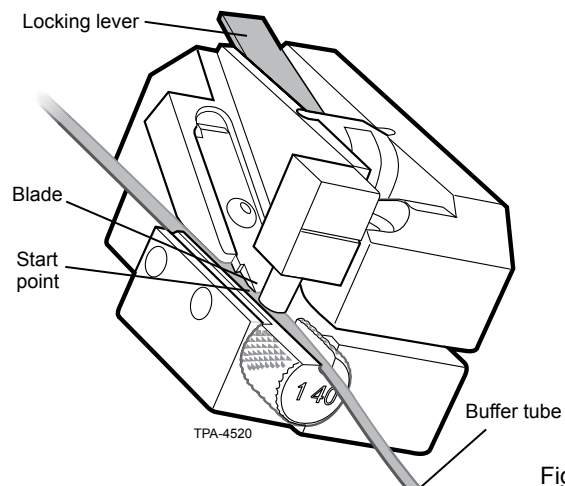

Figure 16
- Unlatch the locking lever and open the tool. Note where the leading edge of the blade will make contact with a buffer tube placed in the metal holder (Figure 16).